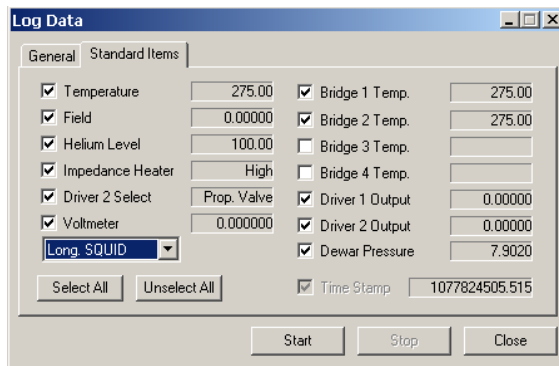

Figure 3. Standard Item tab in Log Data dialog
2. Click on the **Standard Items** tab (Figure 3) to bring it forward.